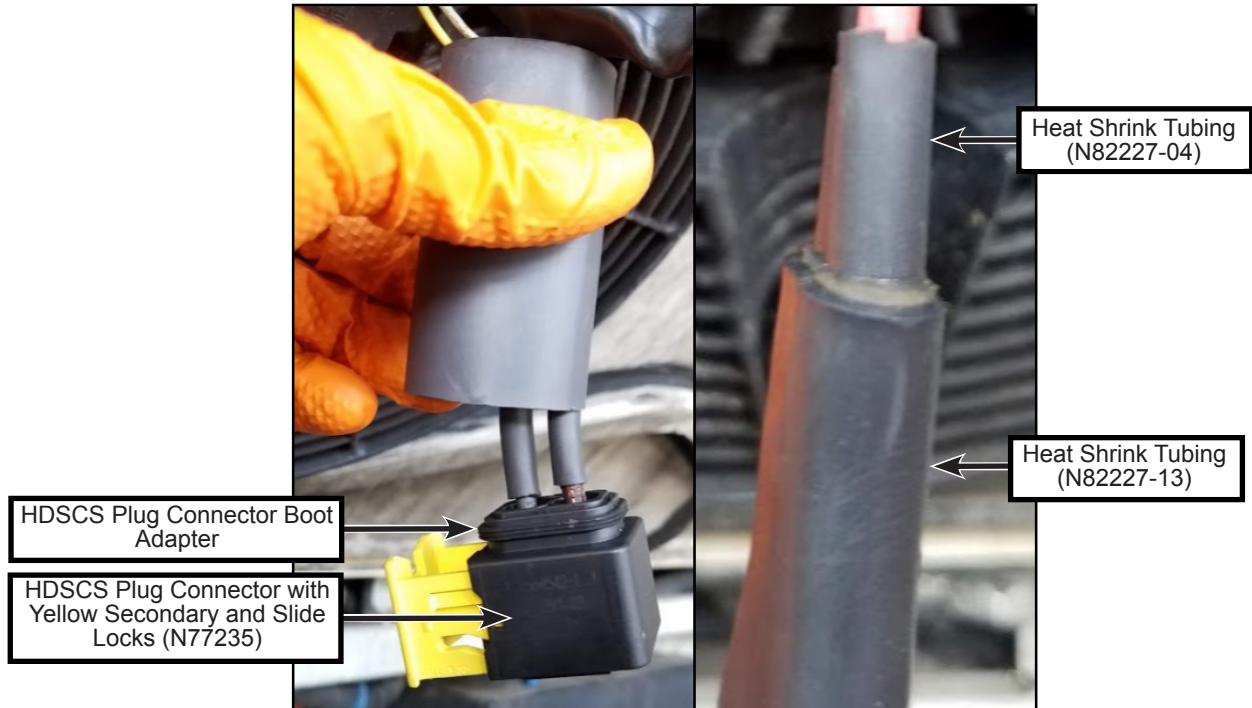

Figure 9 - Heat Shrink Tubing Installation on HDSCS Plug Connector Wiring at Fan Side
- 1.17. Insert the RED wire terminal into position 1 and the BLACK wire terminal into position 2 of the HDSCS plug connector PN N77235 (see figure 9). Make sure that the yellow secondary lock of the plug connector is completely pressed (to move it from the unlocked to the locked position) after inserting both terminals. Refer to Annex 2 for detailed instructions about terminals insertion and secondary lock.
- 1.18. Using a heat gun, apply the large heat shrink tubing PN N82227-13 starting from the boot adapter of HDSCS plug connector finishing directly over the smaller heat shrink tubes previously installed on the power wires (see figure 9). Make sure to fill any gap between the two power wires with the inner adhesive liner glue (do not apply heat shrink tubing over tape or loom).
- 1.24. Using a heat gun, apply the large heat shrink tubing PN N82227-13 starting from the boot adapter of HDSCS receptacle connector finishing directly over the smaller heat shrink tubes previously installed on the power wires (see figure 9). Make sure to fill any gap between the two power wires with the inner adhesive liner glue (do not apply heat shrink tubing over tape or loom).